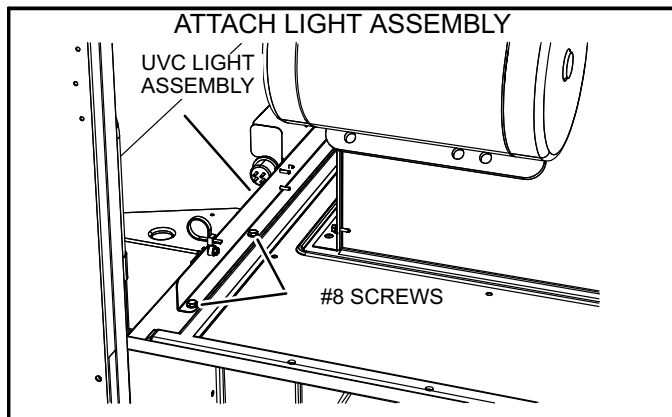

FIGURE 13
- 2- Carefully place the UVC assembly on the blower deck. Line up the mounting holes on the UVC assembly with the mounting holes on the blower deck (see figure 13). Use the #10 screws provided to attach the UVC assembly in place.
- 8- Carefully place the UVC assembly on the blower deck. Line up the mounting holes on the UVC assembly with the mounting holes on the blower deck (see figure 13). Use the #10 screws provided to attach the UVC assembly in place.